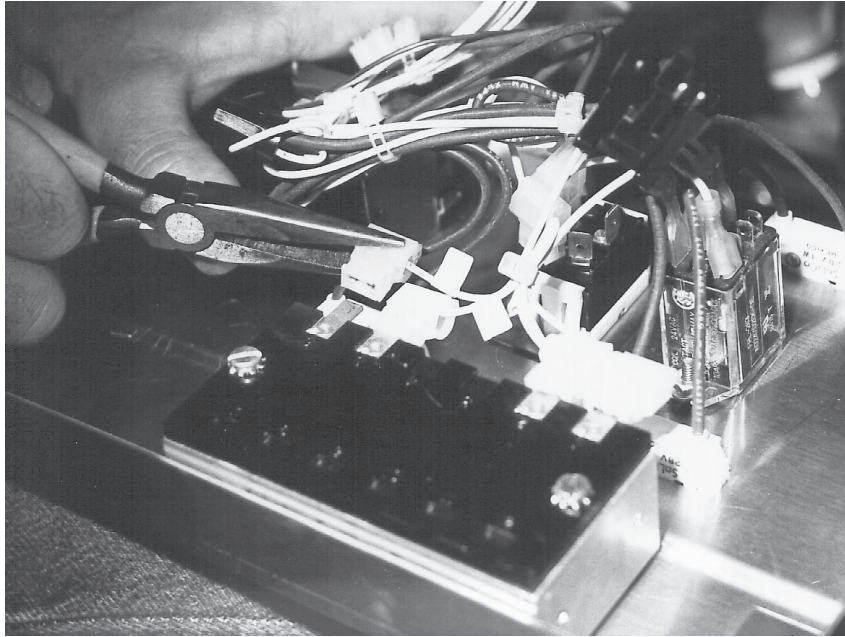

Fig. 20
4. Note and remove all wiring associated with the removal of the timer. (Fig. 20)